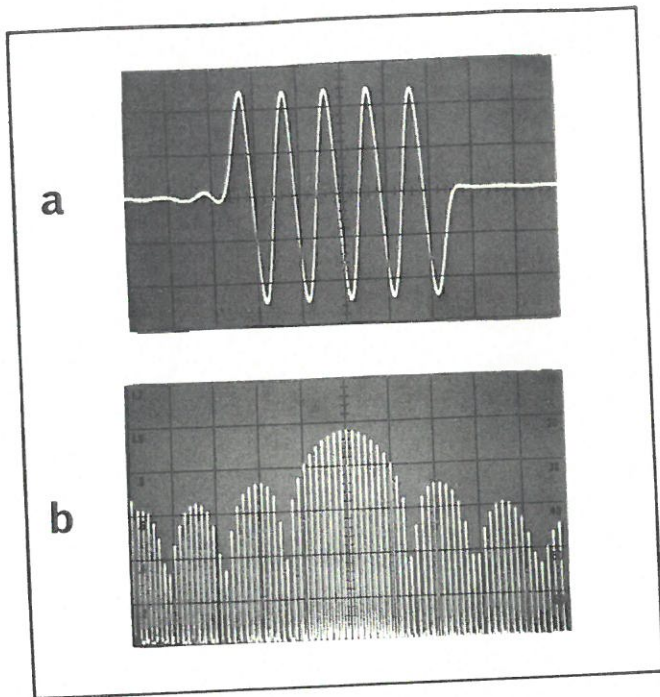

Figure 8. Pulse Modulator Output
24. Figure 8 shows the output of a typical Model 10514A, B Mixer used as a pulse modulator. Input signals to the Mixer are 50 MHz, 5 mw at L and pulses 0.1 μ sec wide, 300 mv high, repetition rate 1 MHz at X. The oscilloscope presentation, Figure 8a, is made with a sweep speed of 0.02 μ sec/cm, and shows the clean rf pulses obtainable. The spectrum analyzer display, Figure 8b, presents the pulse modulator output on a log vertical scale as a function of frequency, with a horizontal scale of 7 MHz/cm, showing dispersion and envelope of the output. Figure 8b shows that when connected as a pulse modulator, the Mixer may be used as a spectrum or "comb" generator.
output represents the sum and difference of the rf signal and the modulating signal, including the harmonics. A square pulse, to have a good shape, requires components at least to the 10th harmonic. In the example given in Figure 8 the 1 MHz repetition rate causes harmonics of 1 MHz and up; the rectangular pulse 10^{-7} second wide causes the signal to have components of 10 MHz at least through 100 MHz. The spectrum presented in Figure 8b shows the relative levels of the carrier and signals to ± 35 MHz away from carrier frequency.